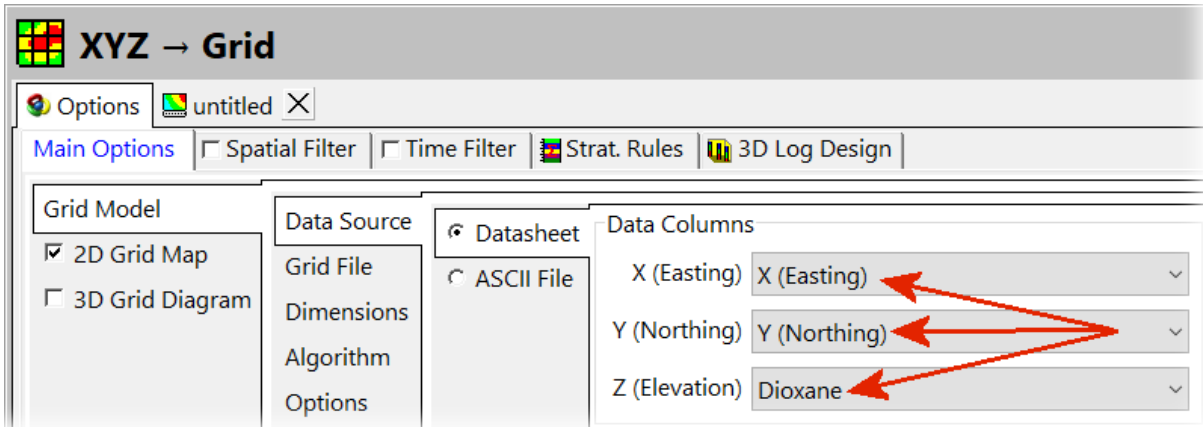

Figure 31
- Set up the *Data Source* to read the XYZ data from the appropriate columns within the Soil_Contam datasheet (Figure 31).